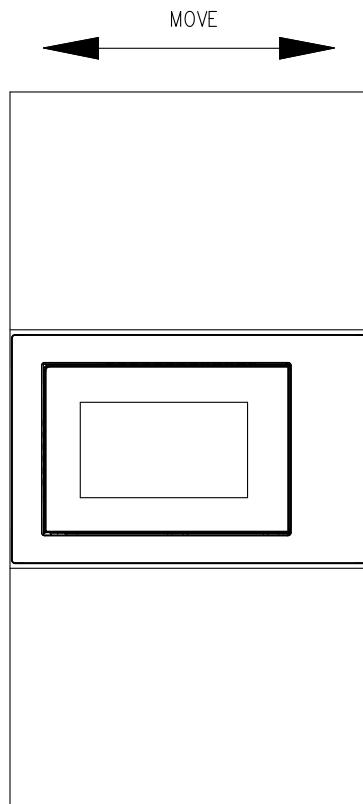

Fig.3
d) Move the product in parallel in the kitchen cabinet according to the direction of the arrow in the figure, and keep it centered. (Fig.3)